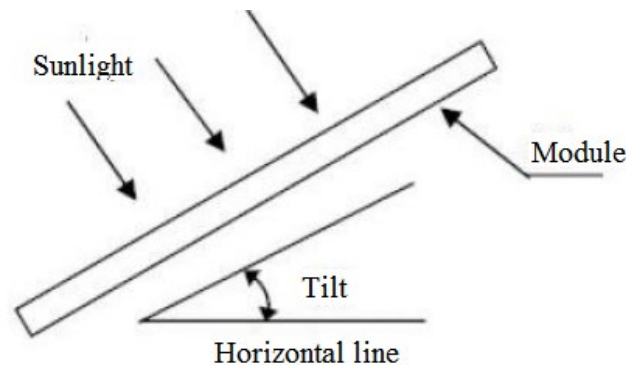

Figure 1 PV module tilt angle
5.1.6 The tilt angle of the PV module is measured between the surface of the PV module and a horizontal ground surface (as shows in Figure 1). The PV module generates maximum output power when it faces the sun vertical. If you want the specific information of best install tilt angle, please consult the local authoritative solar system construction company.